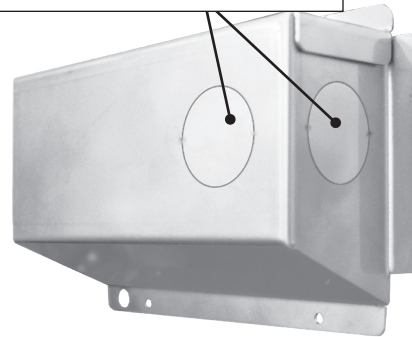

Fig. 32-2 Junction box knockouts
2. Remove the junction box located on the rear of the unit. Select and remove a knockout from the junction box that will best suit your electrical setup. See Fig. 32-2.